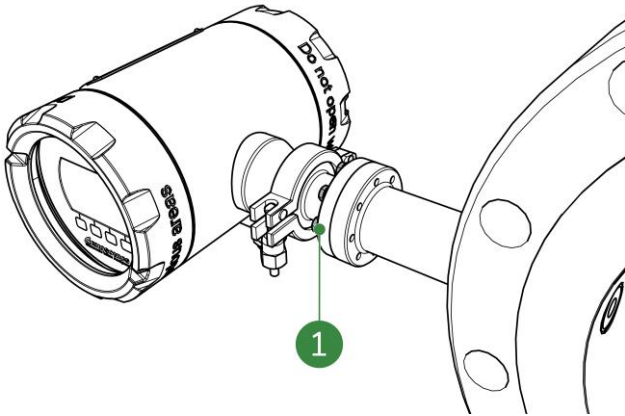

Figure 5-13: Placing the screws
7. Place the eight bolts (with their washers) through the holes of the SDM's flange, into the threaded holes of the receiving flange (Figure 5-13).